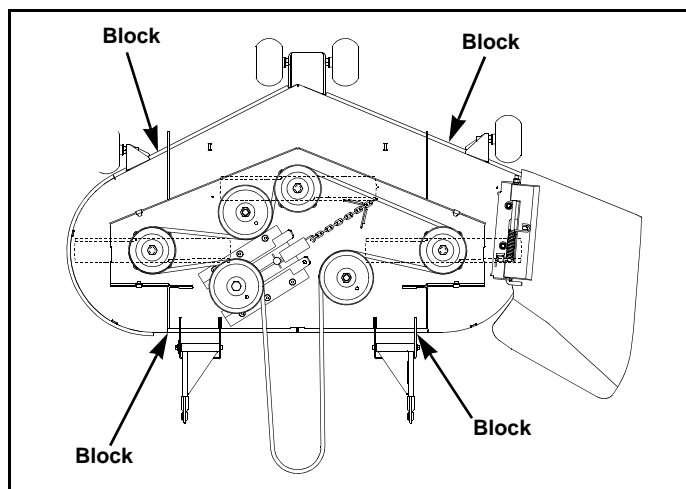

Figure 6-1
3. Place 3” high deck support blocks (two stacked 2” x 4” blocks can be used to create a 3” [7.62cm] high support) at the four corners of the deck as shown. **NOTE:** Back of deck will automatically be set 1/4” (6.35mm) higher. Figure 6-1